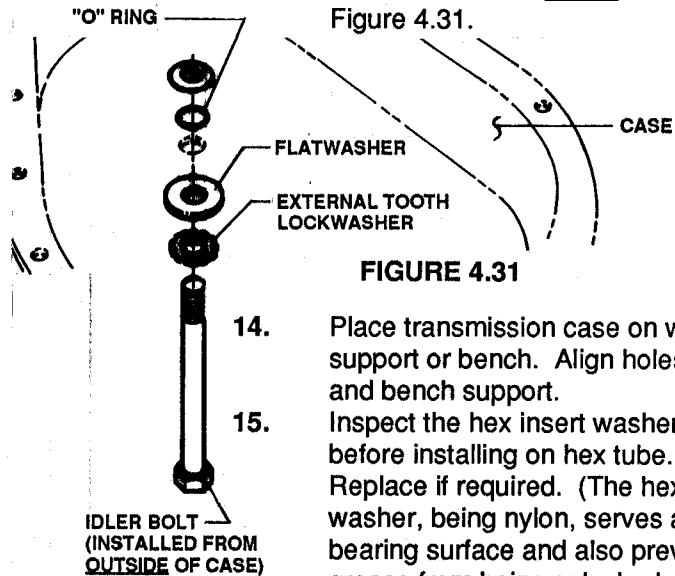

FIGURE 4.31
13. Insert idler bolt into transmission case from outside. Slip "O" ring or idler bolt from inside. See Figure 4.31.